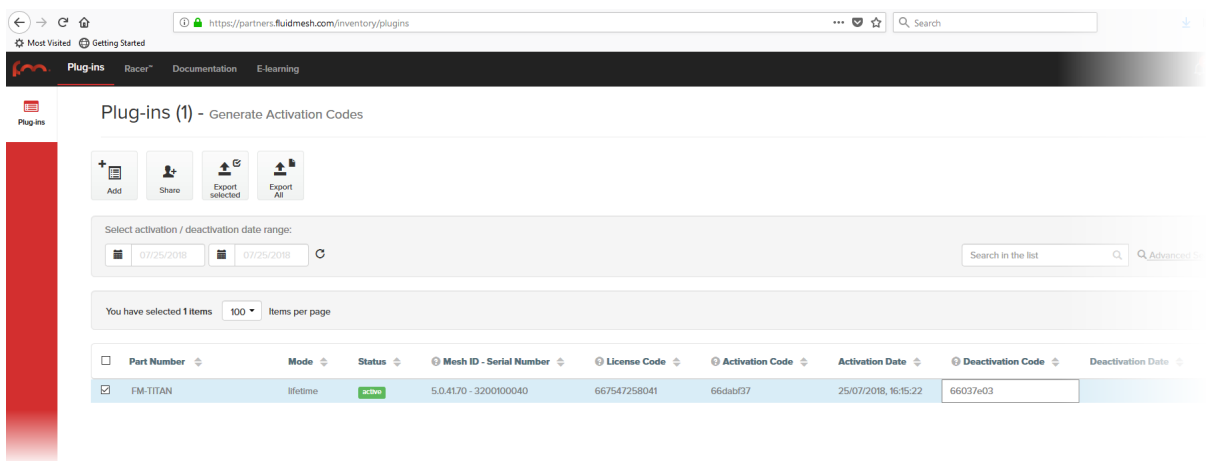

Figure 72. Partner Portal Plug-ins page (deactivation code entry)
8. Enter the Deactivation code for the plug-in in the Deactivation Code field (Figure 72 (page 153)).